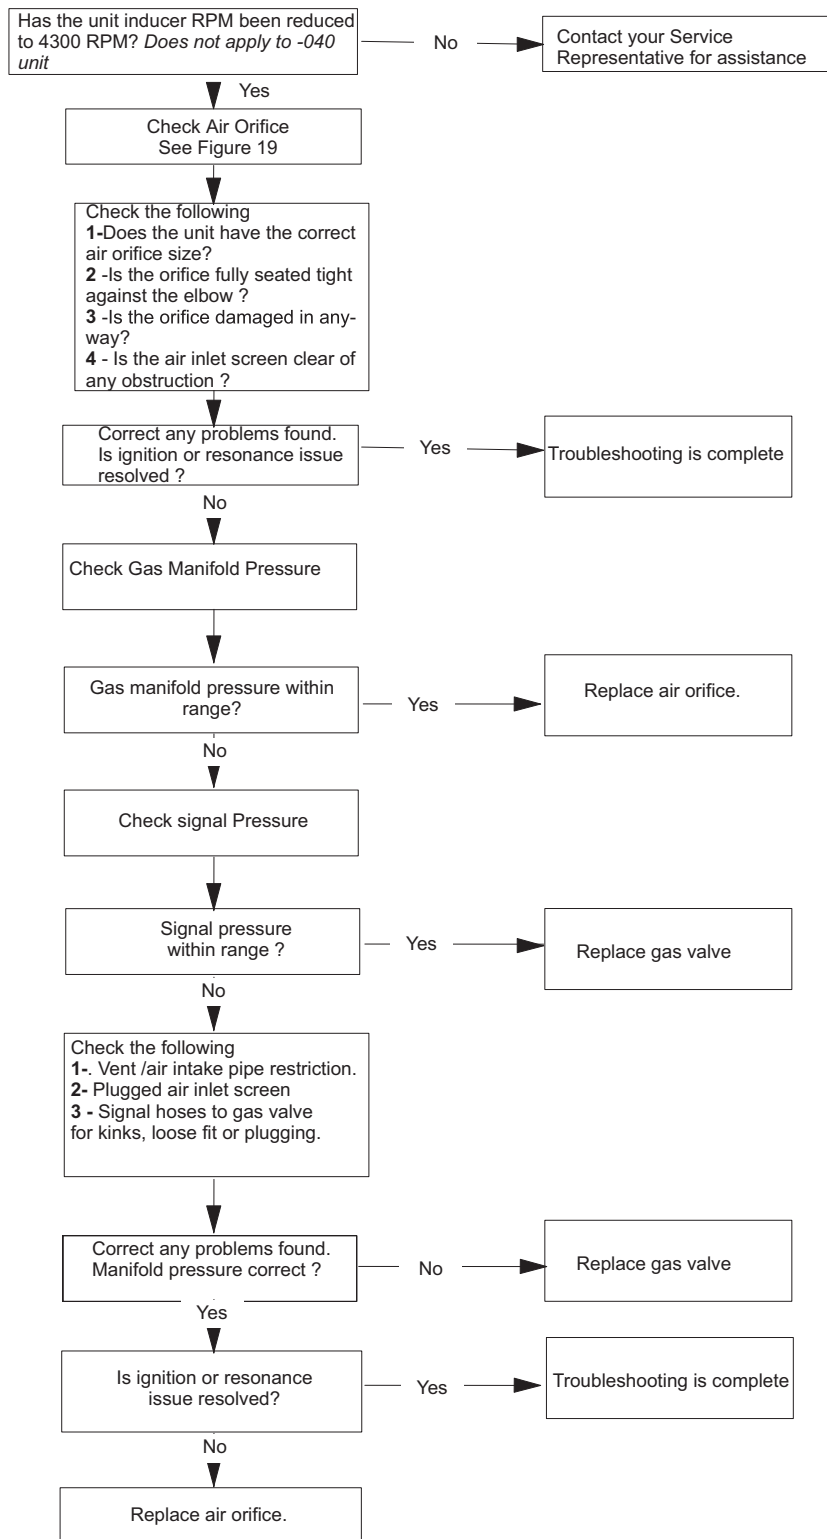

FIGURE 21
- 9 - Repeat manifold and signal pressure check. If unit ignites and manifold and signal pressure are correct, move on to combustion check. If unit still does not ignite or ignites with loud resonance go to Troubleshooting FIGURE 21.